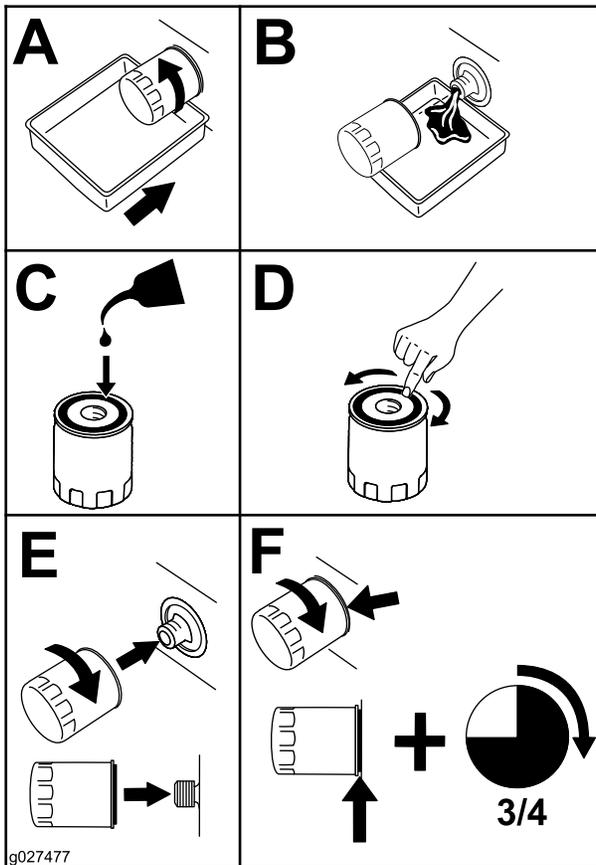

Figure 59
5. Change the engine-oil filter (Figure 59).